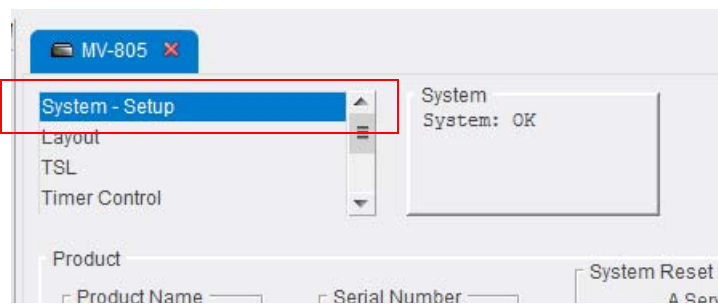

Figure 53 Select the System-Setup Template
1. Select the **System-Setup** template, see Figure 53.